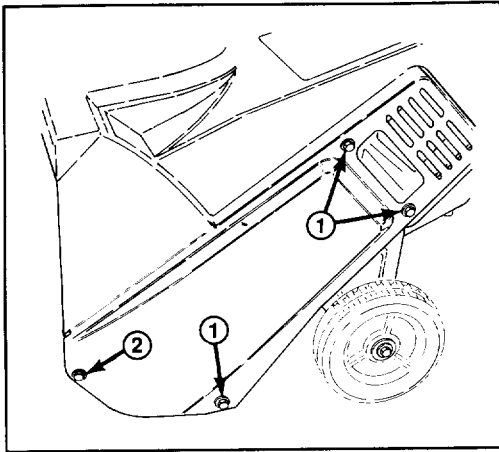

Figure 9
REPLACING DRIVE BELT (Figs. 9, 10 & 11)
2. Remove (3) self tapping screws, (1) capscrew, (1) washer, and (1) nut securing left side cover to snowthrower frame (Fig. 9). Remove cover.